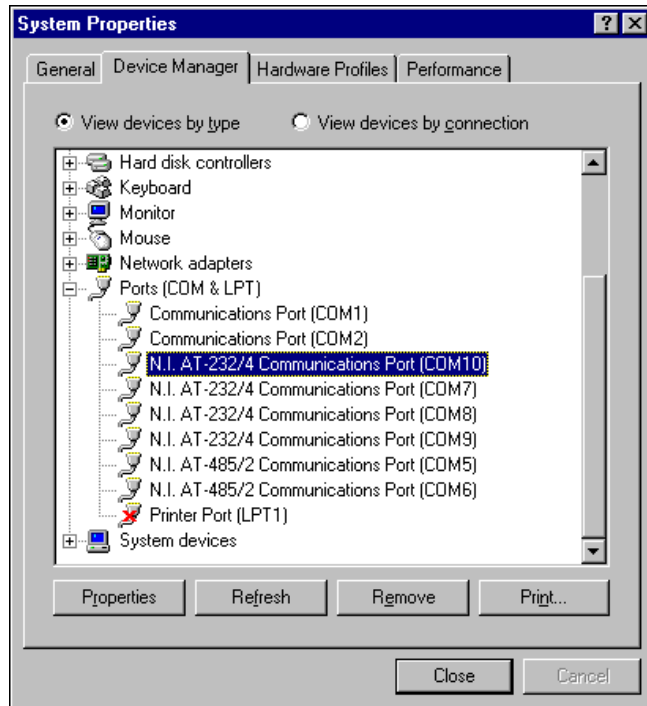

Figure C-11. Selecting an Interface to Uninstall
5. Select the National Instruments port to remove from the list of ports, as shown in Figure C-11.